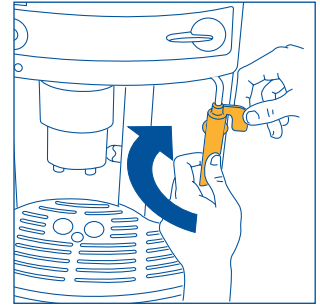

Fig.25
- Turn the knob clockwise as far as it will go. With one hand, hold the cappuccino frother handle firm and with the other unscrew the cappuccino frother cover itself by rotating clockwise and extracting downwards (fig. 25).